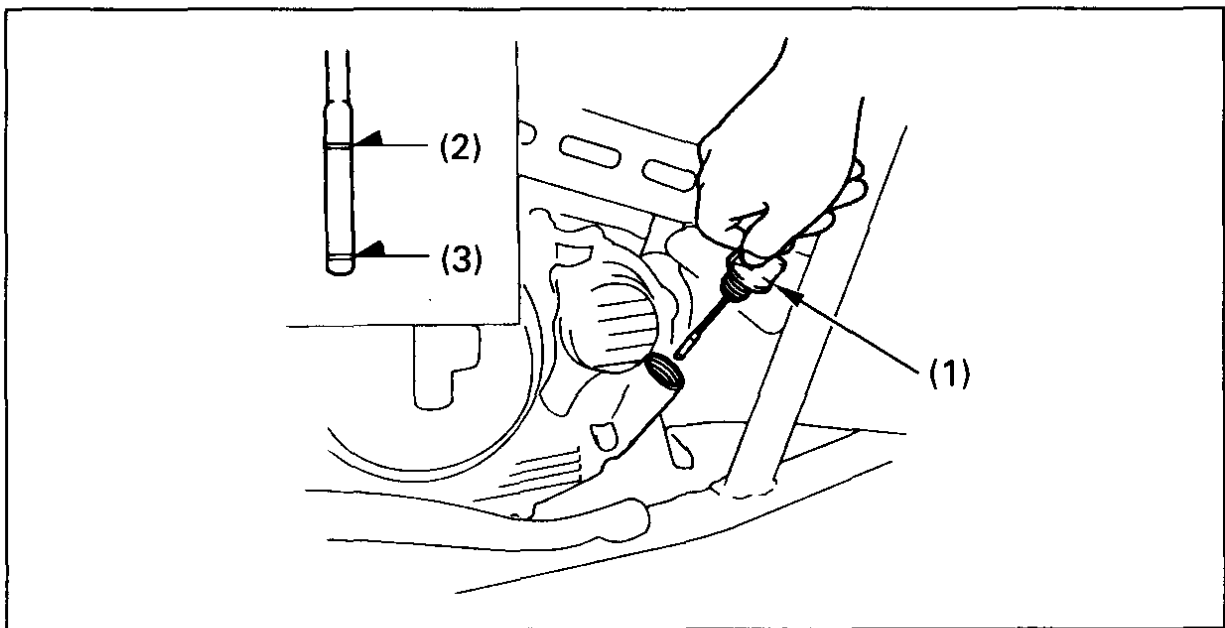

Fig. 2-17 (1) Oil filler cap/dipstick (2) Upper level mark
The oil filler cap/dipstick (Fig. 2-17), on the right crankcase cover, is used to measure the oil level. The oil should be checked each day before operating the FOURTRAX and maintained between the upper level mark (2) and the lower level mark (3).